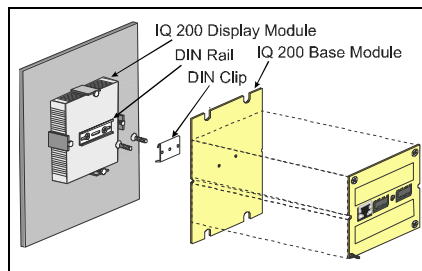

Figure 3.2 Mounting the IQ 200 Base Module to the IQ 200 Display Module
- Connect the IQ 200 Base Module to the IQ 200 Display Module using the DIN rail and clip, as shown in figure 3.2.